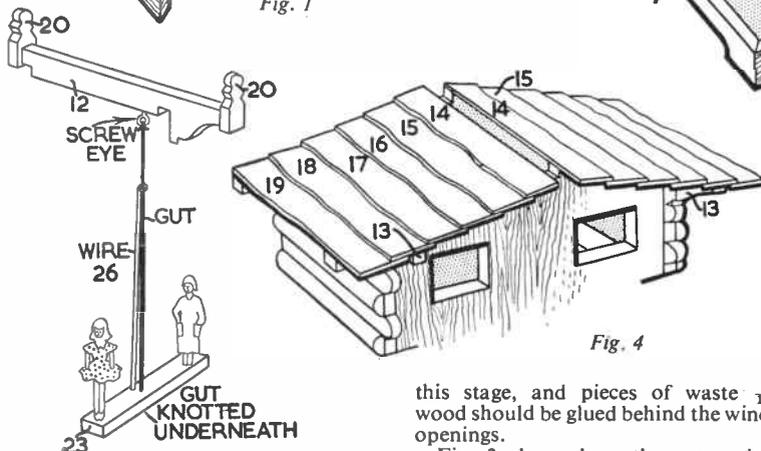

Fig. 3
Fig. 3 shows how the catgut is attached to the ridge piece (12) by means
stage test the twisting action of the gut as already mentioned, before gluing the ridge piece in place. The addition of the finials (20) and wire stabiliser is also shown in Fig. 3.